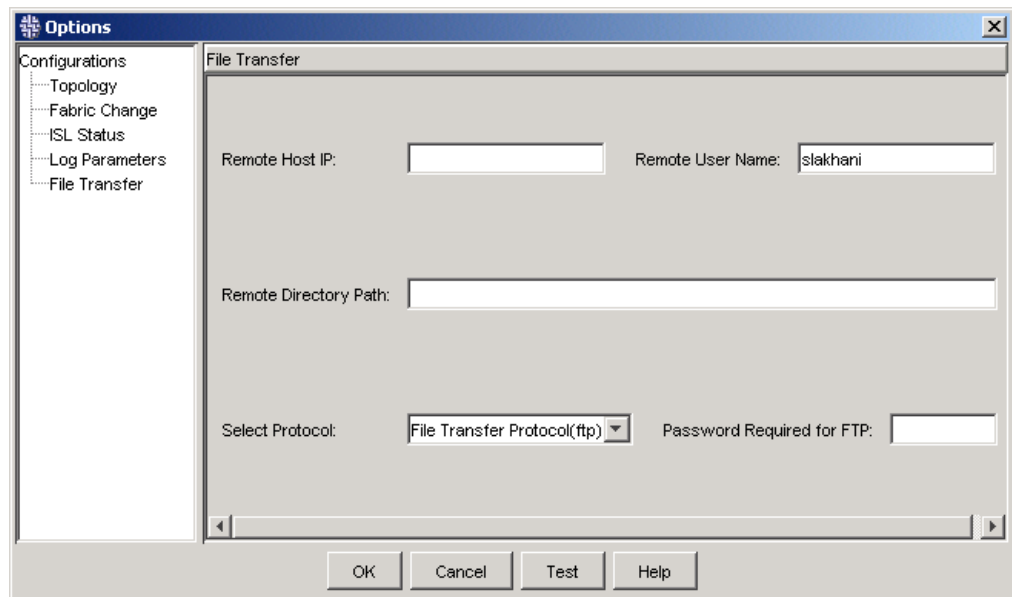

Figure 3-1 Options Window
1. From the **File** menu, select **Options...** The **Options** window opens. The **Options** window is displayed in Figure 3-1.